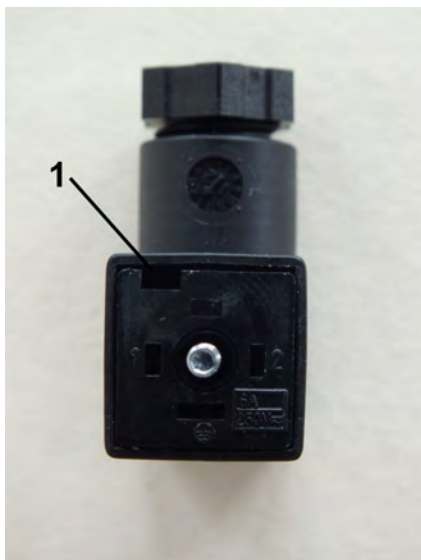

Fig. 24: Remove inner section
3. ➤ Remove the inner section from the socket by inserting a flat-bladed screwdriver into the slot (Fig. 24/1) and carefully pry out the inner section.
7. ➤ Place the inner section (Fig. 24) back into the socket and push until it locks on.